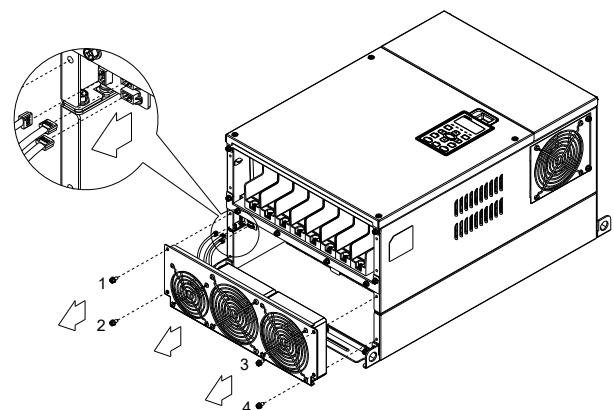

Figure 2
1. Loosen screw 1~4 (figure 2) and disconnect fan power and pull out the fan. (As shown in the enlarged picture 2) Screw1~4 Torque: 24~26 kg-cm / [20.8~22.6 lb-in.] / [2.4~2.5 Nm]